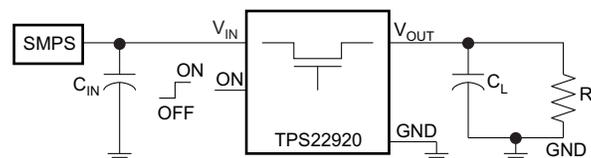

Figure 10. TPS22920 Simplified Application Circuit
The TPS22920 is a small, space-saving load switch with controlled turn-on to reduce inrush current (see Figure 10). The device contains a N-channel MOSFET that can operate over an input voltage range of 0.75 V to 3.6 V and switch currents up to 4 A. An integrated charge pump biases the NMOS switch to achieve a minimum switch ON resistance (R_{ON}). The switch is controlled by an on/off input (ON), which is capable of interfacing directly with low-voltage control signals. The TPS22920 has a 1250- Ω on-chip resistor for quick output discharge when the switch is turned off, which ensures that the output is not left floating. The TPS22920 has an internally controlled rise time to reduce inrush current. The TPS22920 is available in an ultra-small, space-saving 8-pin CSP package.